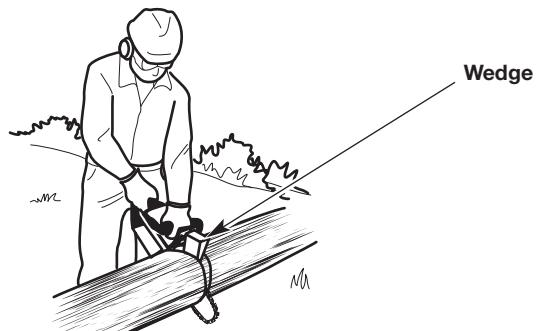

Fig. 33
2. Make the second cut from the opposite side until the two cuts meet. If the diameter of the wood is large enough, insert soft plastic or wooden wedges to hold the cut open and prevent pinching (Fig. 33). Take care not to touch the wedges with the saw chain.